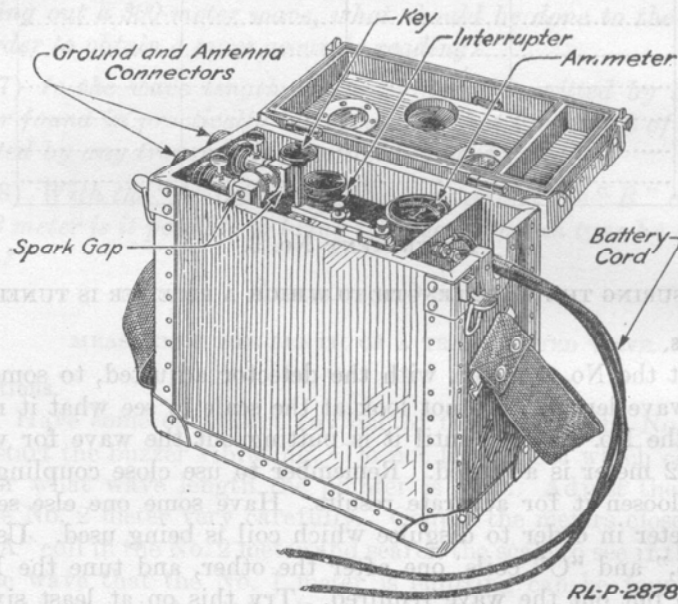

Fig. 30.—Set box, BC-18-A, with lid open.
The SCR-74-A is an *induction coil* transmitting set of low power. (See Fig. 30.) The power supply is obtained from a 10-volt storage battery, which is connected to the primary of the induction coil through an ammeter and a key.
many more turns than the primary. After the winding has been completed the two coils and the core are dipped in wax, paraffin, or some other good insulator. One end of the primary winding is connected to one of the battery terminals through an interrupter, similar to the one on an ordinary buzzer, and a telegraph key. The other end of the primary winding is connected to the other side of the battery. (See Fig. 30.) The ammeter connected in the primary circuit is used to indicate when the coil is working properly. The ends of the secondary winding are connected to the sparking surfaces or *electrodes* of the *spark gap*.
1. Open the set box by undoing the latches and throw back the lid. (See Fig. 30.) Unscrew the two thumbscrews and remove